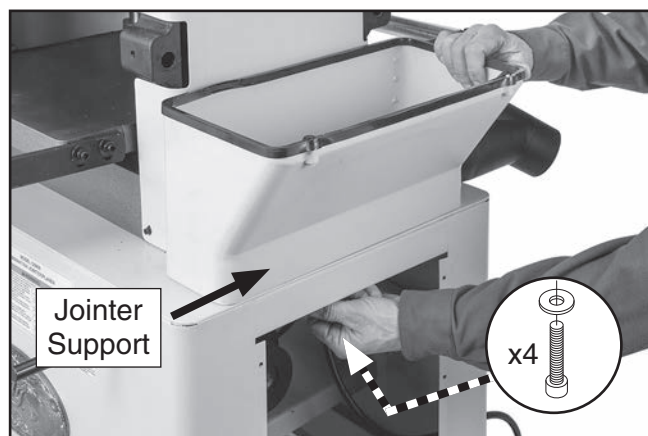

Figure 52. Removing jointer support stand.
6. Remove (4) cap screws securing jointer support to main cabinet (see **Figure 52**), then remove jointer support.